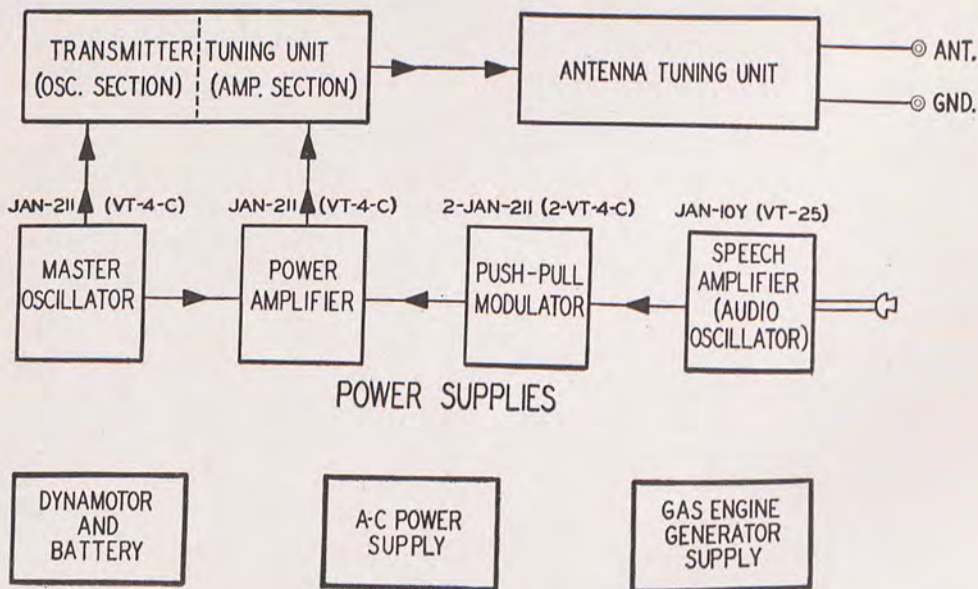

Figure 2. Radio Transmitter BC-191-(\*), simplified block diagram.
a. R-F SECTION. The simplified block diagram (fig. 2) shows the transmitter divided into separate blocks, each block representing an individual stage or, as with the tuning unit, a component of that stage. The frequency of transmission is determined by the master oscillator and the oscillation section of the transmitter tuning unit. Power generated by the oscillator is then coupled to the power amplifier. The power amplifier, shown by the power-amplifier block and the amplifier section of the
c. POWER SUPPLIES. The block diagram (fig. 2) shows the three types of power supplies which may be used to furnish power necessary to operate the equipment. Any one of the three may be used; the type chosen depends upon where the equipment is installed.